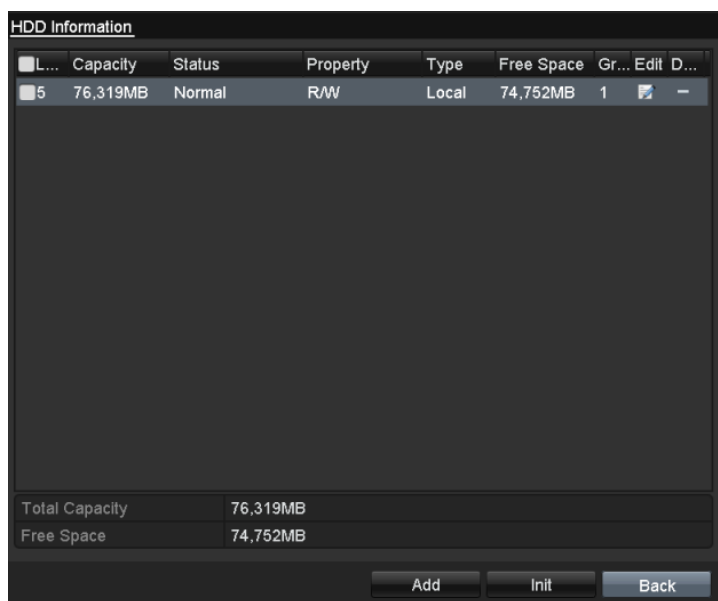

Figure 12. 25 View HDD Status (1)
2. Check the status of each HDD which is displayed on the list, as shown in Figure 12. 25.